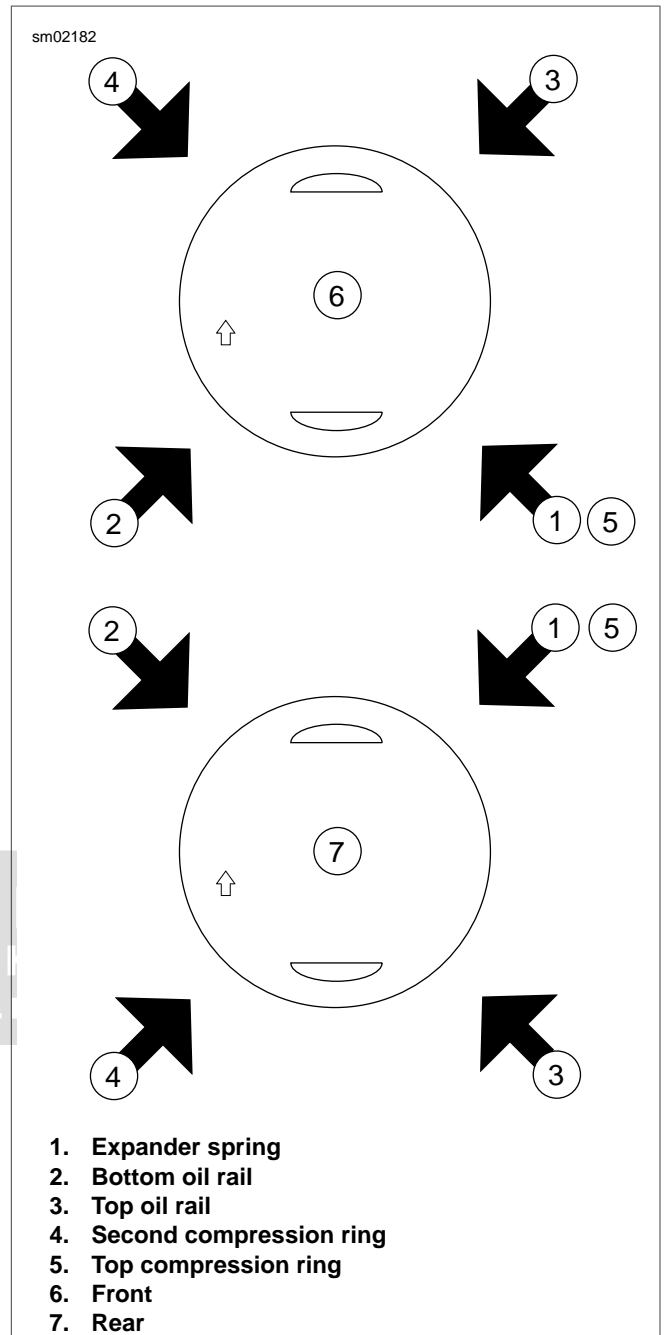

Figure 3-30. Piston Ring Alignment
3. See Figure 3-30. Verify that the piston ring end gaps are staggered. Rotate each ring to position the gap 90 to 180 degrees from the gap in the ring above it. Locate the top piston ring (5) gap towards the intake port.